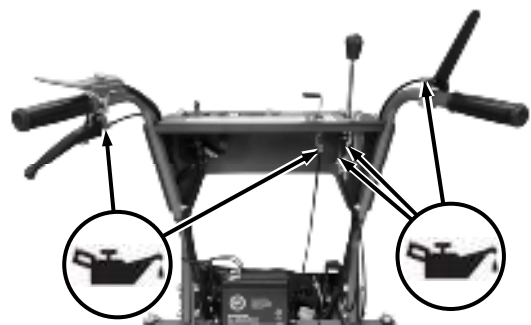
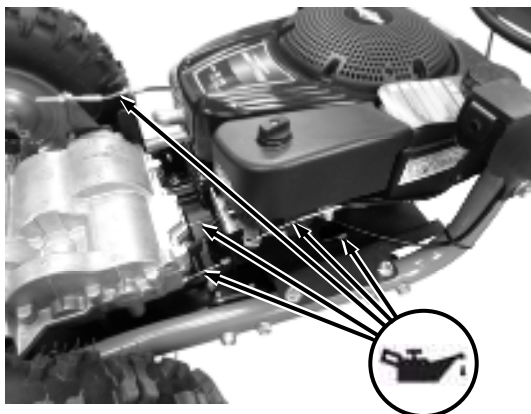

Figure 40
Figure 41
1. Using SAE 30 Oil, lubricate the end of the Cables at the Handlebars and Control Panel (**Figure 40**) and where the other ends connect to the machine (**Figure 41**). Operate the Levers to work lubricant into the Cables.